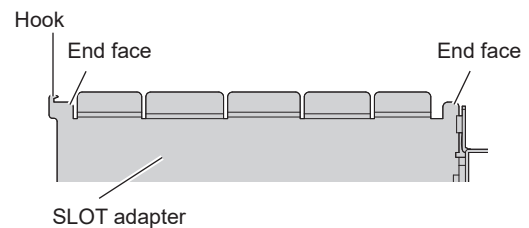

Fig. 2
**2) Attach the Function Board to the SLOT adapter. (Fig. 2)**